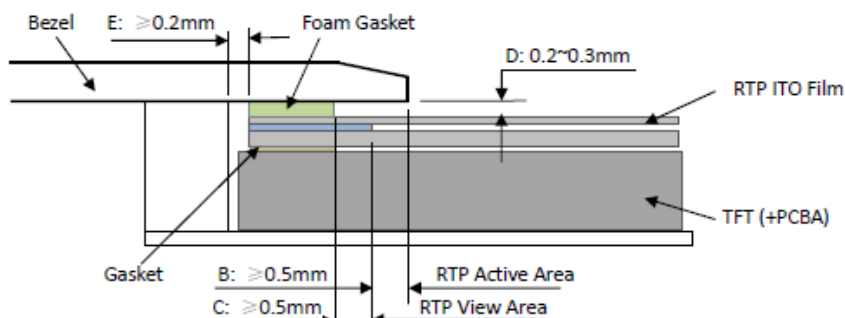

Figure 4
- It should bezel touching the RTP Active Area (A.A.) to prevent abnormal touch. It should left gap $D=0.2\sim0.3\text{mm}$ in between. (Figure 4)
- Outer bezel design should take care about the area outside the A.A. Those areas contain circuit wires which is having different thickness. Touching those areas could de-form the ITO film. As a result bezel the ITO film be damaged and shorten its lifetime. It is suggested to protect those areas with gasket (between the bezel and RTP). The suggested figures are $B \geq 0.50\text{mm}$; $C \geq 0.50\text{mm}$. (Figure 4)
- The bezel side wall should keep space $E=0.2\sim0.3\text{mm}$ from the RTP. (Figure 4)
- 为避免面框直接压在动作区 (A. A.) 上造成误动作, 面框与电阻触摸屏 (RTP) 之间应留有一定的空隙 $D=0.2\sim0.3\text{mm}$ 之间. (附图 4)
- 设计面框时, 要注意用面框保护触摸屏四周的非保证操作区域, 因为布线区域在此处形成一台阶, 在此区域附近操作时 ITO Film 变形较大, 容易导致 ITO 损坏而降低寿命. 为保护 RTP 和避免误操作, 在 RTP 与面框之间垫缓冲物 (Gasket), 我们建议设计面框应覆盖动作区的边缘, 面框边缘到 V. A. 区的距离 $B \geq 0.50\text{mm}$; 垫圈内边缘到 V. A. 区的距离 $C \geq 0.50\text{mm}$. (附图 4)
- 在设计面框与 RTP 组装时, 应考虑到面框内侧与 RTP 外侧的间距 $E \geq 0.2\text{mm}$. (附图 4)